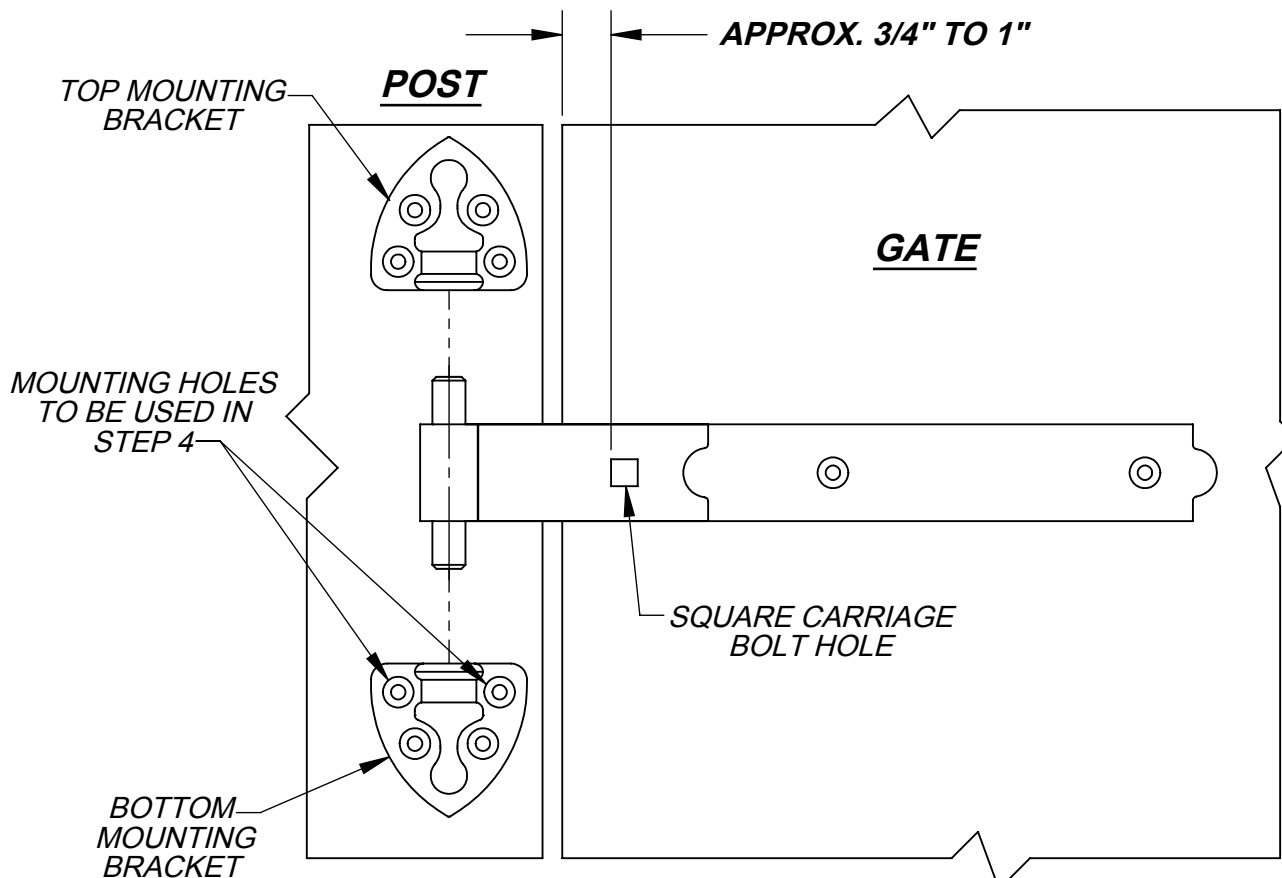

Fig. 1
- 4) BLOCK GATE TO THE DESIRED POSITION BETWEEN POSTS. LOCATE AND MARK THE MOUNTING HOLES OF BOTH BOTTOM MOUNTING BRACKETS. DRILL ϕ 1/8" SIZED PILOT HOLES FOR THE TOP MOUNTING HOLES AS SHOWN IN FIG. 1. USING (2) SCREWS PER BRACKET, MOUNT BOTTOM BRACKETS AND GATE TO THE POST.